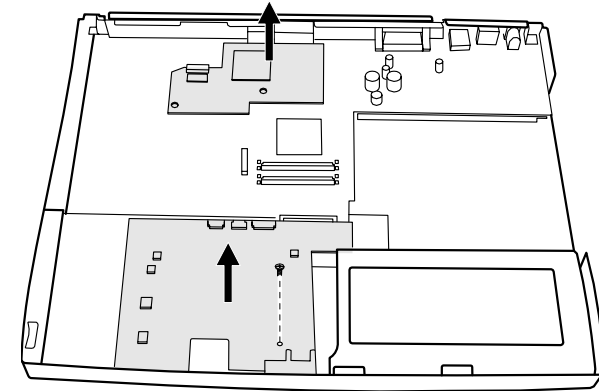

Figure 7-31. Removing VGA Board and Audio/Charger Board
4. Replace the VGA board by plugging the connector to the system board. (Refer to Figure 7-31 earlier.)